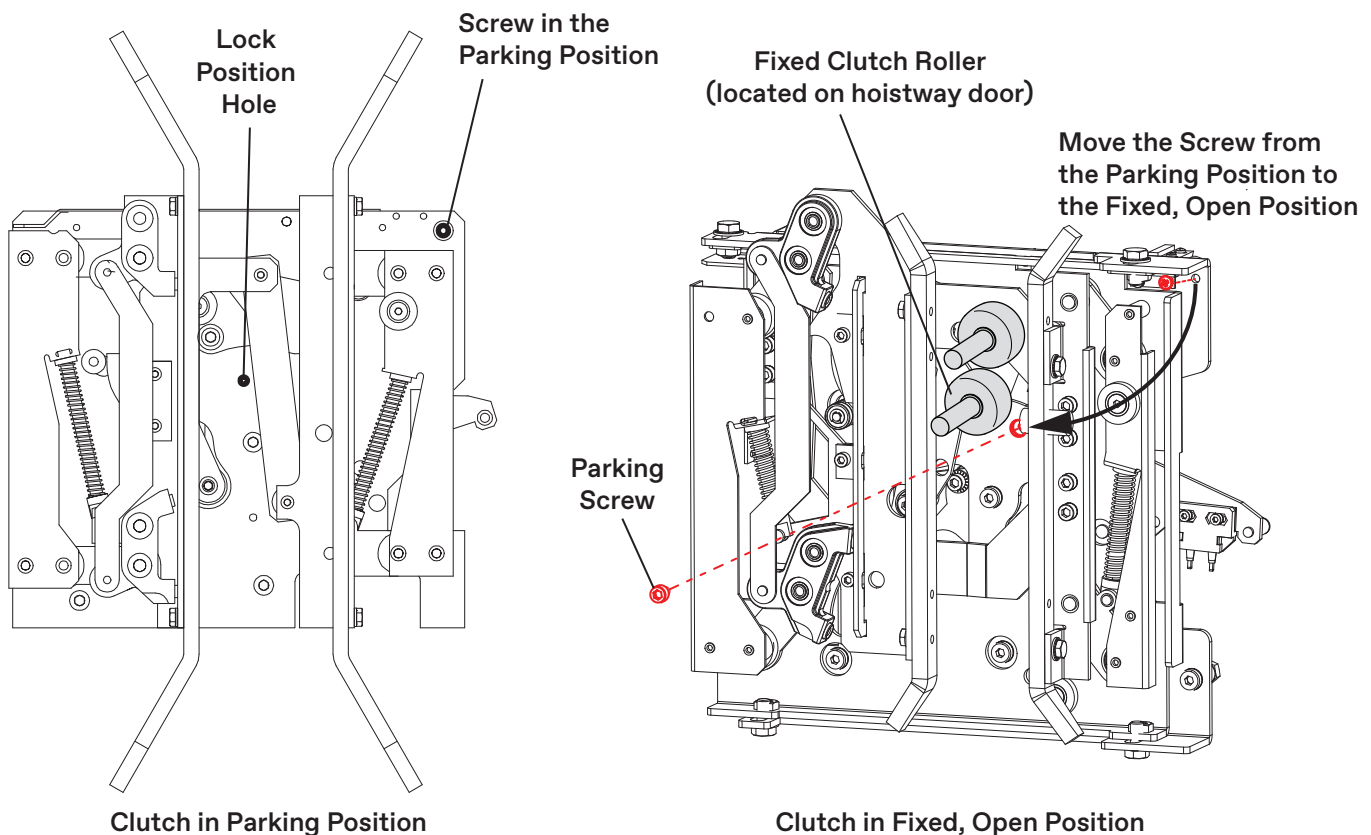

Figure 51 - Block LD-16 Clutch Open
1. Remove the screw from the parking position on the clutch. See Figure 51.